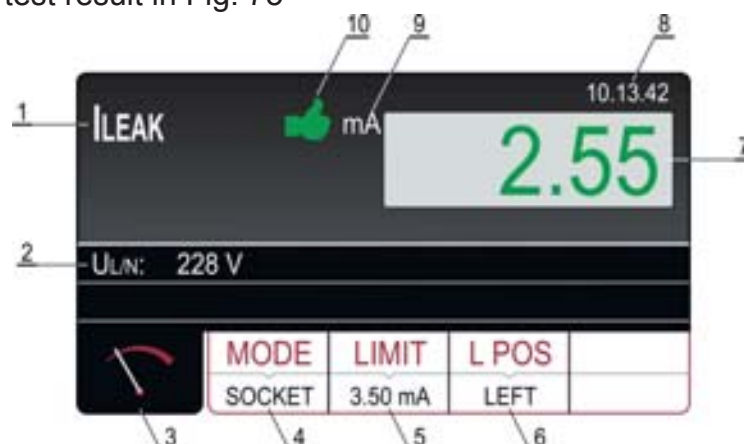

Fig. 75 : Visualization of ILEAK test result – SOCKET mode
- Start the measurement by pressing the **START/STOP** key. The measurement will start to run and will be stopped after pressing the **START/STOP** key again. Measurement result will be currently displayed in green color if it is lower than or equal to set limit value or in red color if it is higher than set limit value. Final result will be equipped with green  symbol and with beep-beep sound if it is OK or with red  symbol and with longer beep sound if it is not OK. See the display outlook with test result in Fig. 75